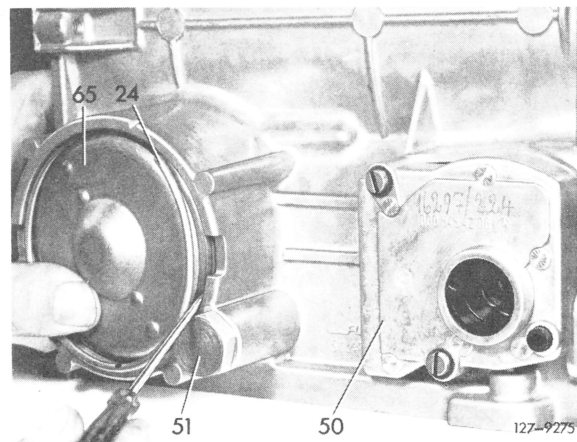

Fig. 29
**46** Mount brake band piston cover B 3 with new O-rings and secure with locking ring (24) (Fig. 29).
**47** Mount starter lockout and back-up light switch (50) and tighten fastening bolts to 5 Nm (0.5 kpm). (Fig. 29).